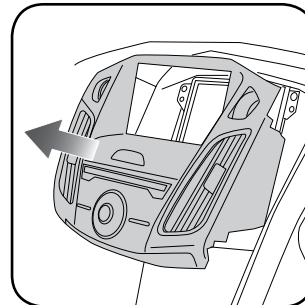

Fig. 1.5
5. Starting at the bottom, pull the bezel forward and use a panel removal tool to release the bezel from the dash. Disconnect the plug on the back of the bezel and put it to the side. (Fig. 1.5)